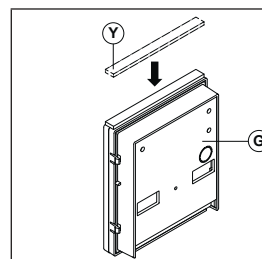

Fig. 5
Apply the (Y) seal as shown in Fig. 5.